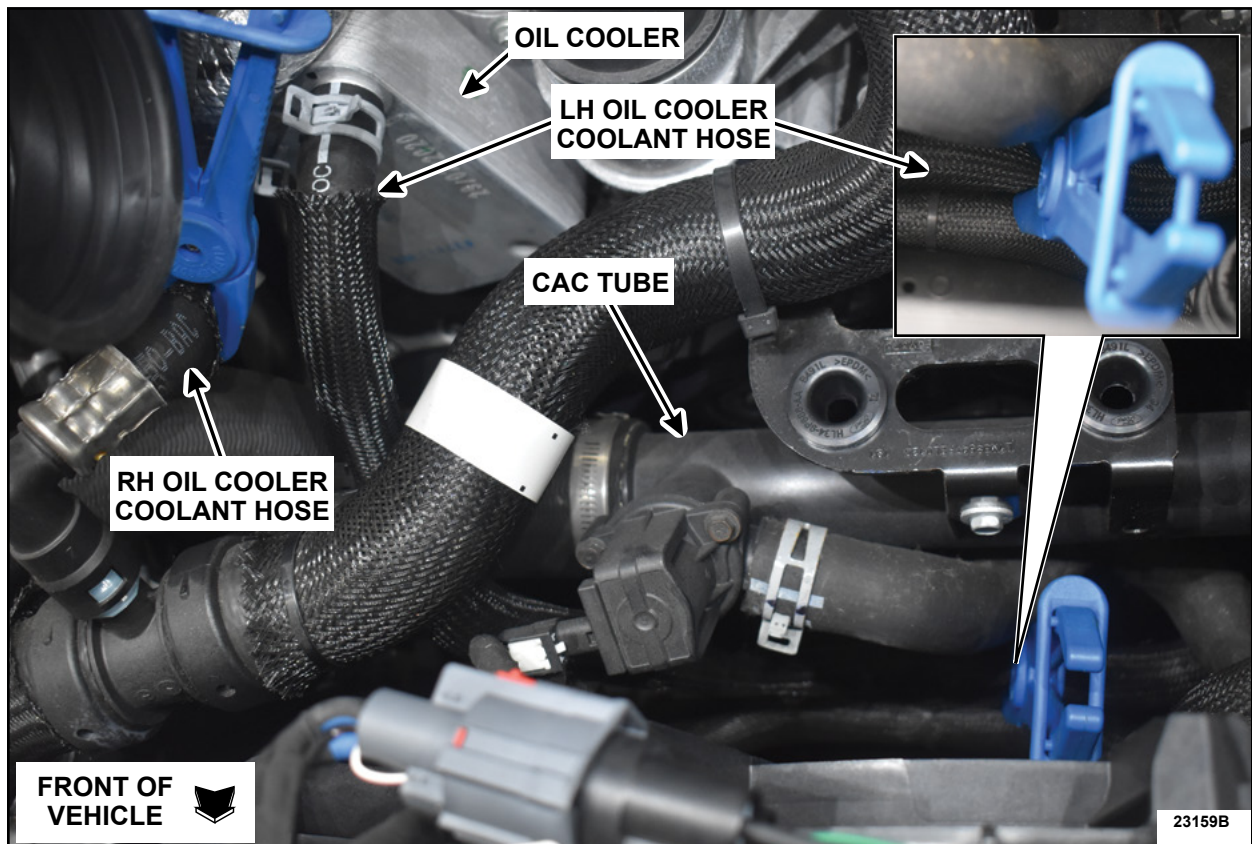

FIGURE 6
10. Remove the hose locking pliers. See Figure 6.